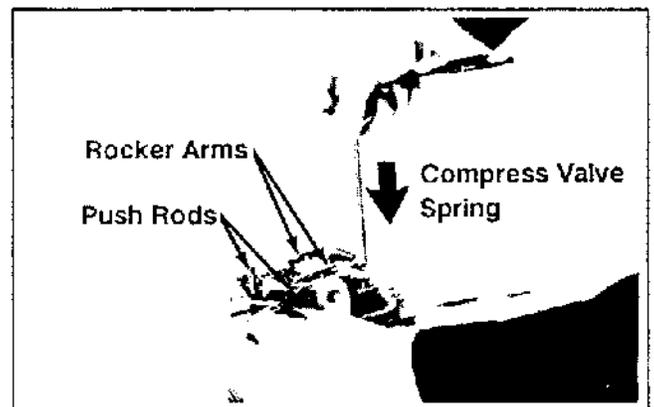

Figure 11-32. Installing Push Rods Under Rocker Arms.
3. Install the push rods and compress the valve springs. Snap the push rods underneath the rocker arms. See Figure 11-32.